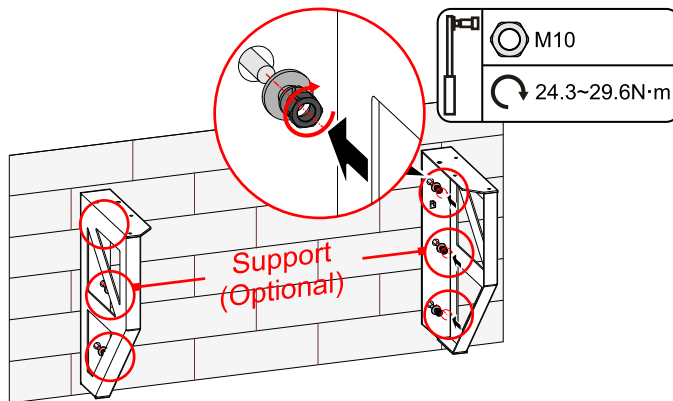

Figure 3-16 Mark the installation holes
3. Fix the assembled base by expansion bolt M10, as shown in Figure 3-16.